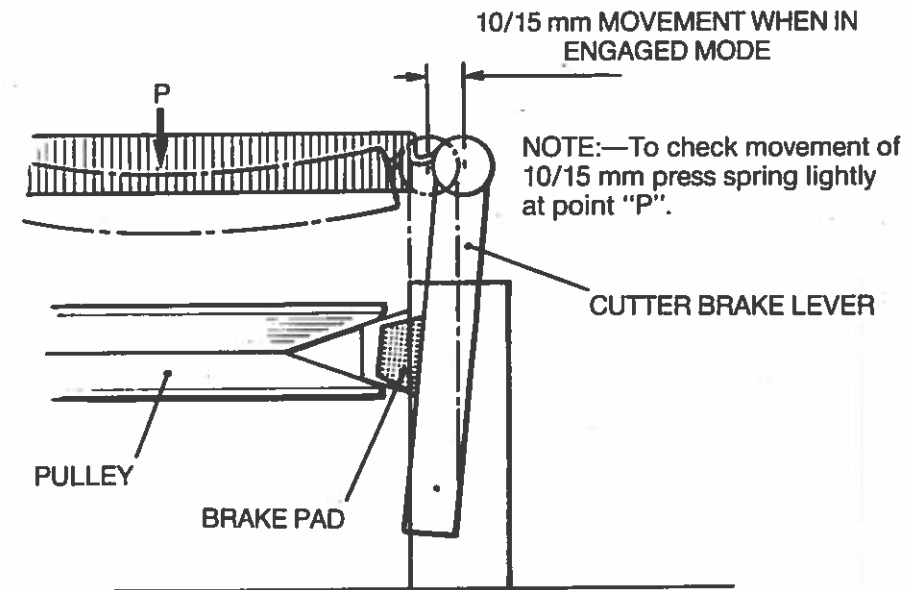

FIG. 7
5. Cutter Brake (Refer to Fig. 7)
- Slacken spring adjust bracket and slide to a position that will give a result as shown in FIG. 7.